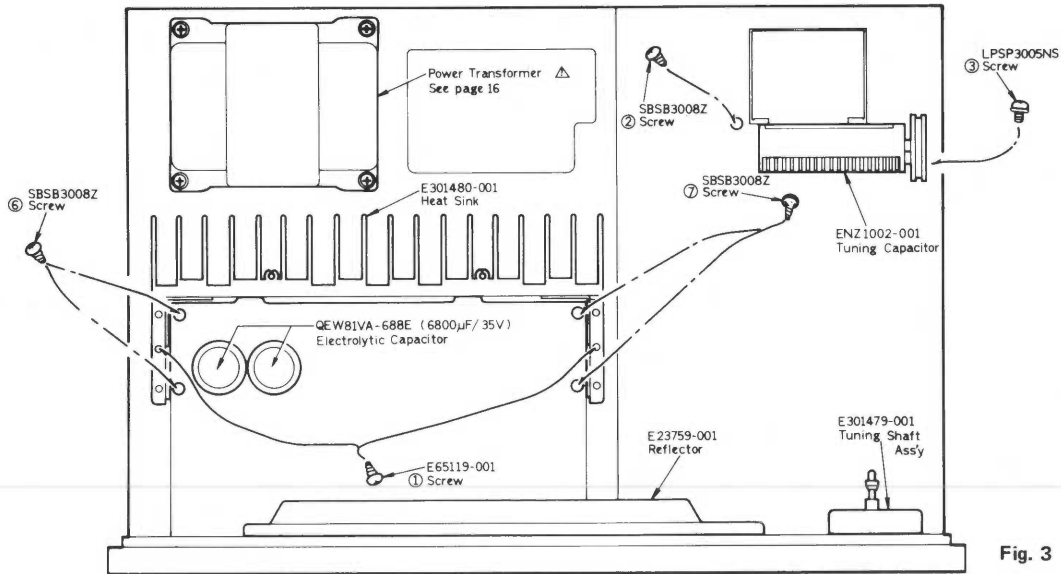

Fig. 3
- Step 1: Remove 4 screws ①, ②, ③. (Fig. 3)
- Step 2: Remove 4 screws ⑥, ⑦ (Fig. 3) and heat sink from Audio unit P.C. Board Ass'y and then replace the transistors.